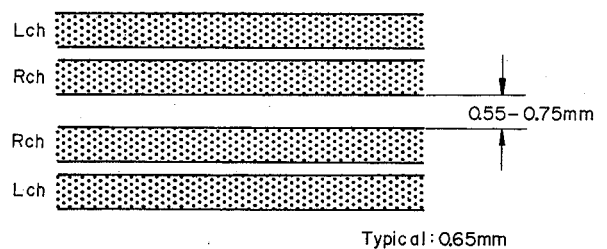

Fig. 5.13
(2) Record Head Height Adjustment and Azimuth Alignment
- Immerse the recorded tape in a magnetized developing solution. In turn, check to insure that the recording head tracks across the center are separated with a distance of 0.55 to 0.75 mm (typically 0.65 mm) as illustrated in Fig. 5.13.